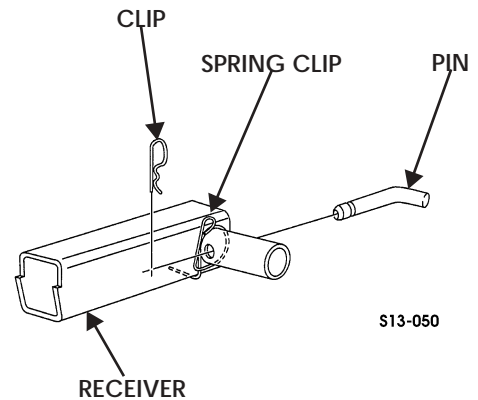

Figure 13-47: Receiver
1. Remove two clips and pins securing the right and left curved tubes to the receiver (Figures 13-47 and 13-48).
11. Position two spring clips on receiver. Ensure the spring clips are positioned 180 degrees from each other (Figure 13-47).